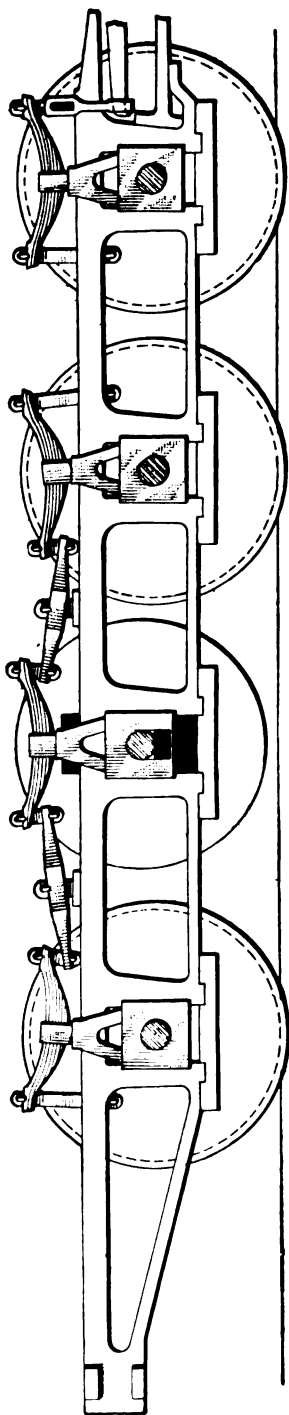

FIG. 55.
**123.** In case the tire on the main driver breaks, if no other damage is done, run that driver up on a wedge until it is about the thickness of the tire above the rail, then block it in this position, as shown in Fig. 55. Also block between the top of the frame and the spring saddle, as shown. By this means all the springs are in use. Cut out the driver brake, but do not take down the side rods unless they are so injured as to require it.